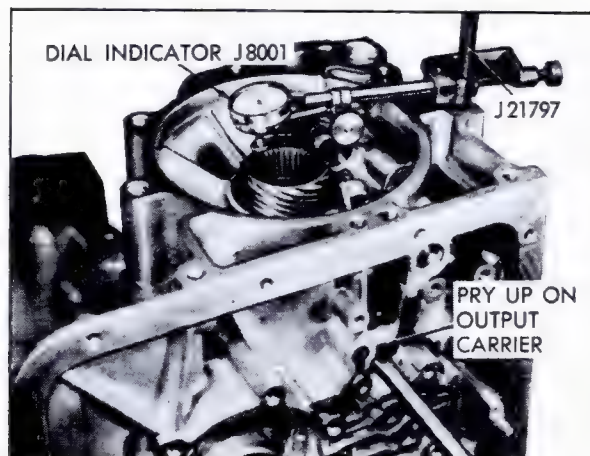

Fig. 7-173 Checking Rear Unit End Play
3. Mount Dial Indicator, J-8001, on Bolt J-21797, and index indicator to register with flat surface on end of output flange, Fig. 7-173.